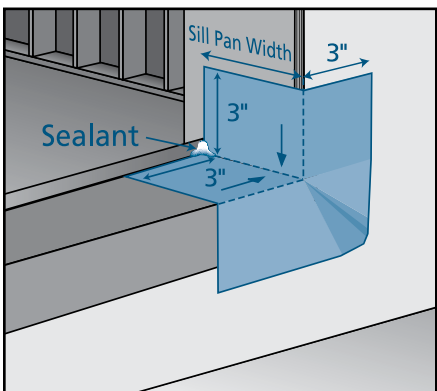

Fig. 9 Apply self-adhesive flashing (step-down landing)
- Adhere to one bottom corner tightly at 90° with 3" up the side and overlap onto the vertical face of the rise (**Fig. 9**); do not stretch or tear flashing; eliminate as many wrinkles as possible.
4. Seal back corners of sill pan with sealant (**Fig. 9**).